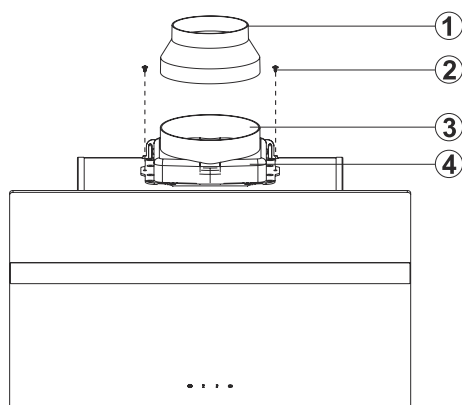

Fig. 13
Mount the plastic flue to the product body using 3.5x9.5 screws (Fig. 13).
- Connect the Ø150/120 mm plastic flue adapter to the air outlet if air discharge pipe is 120 mm (Fig. 13).